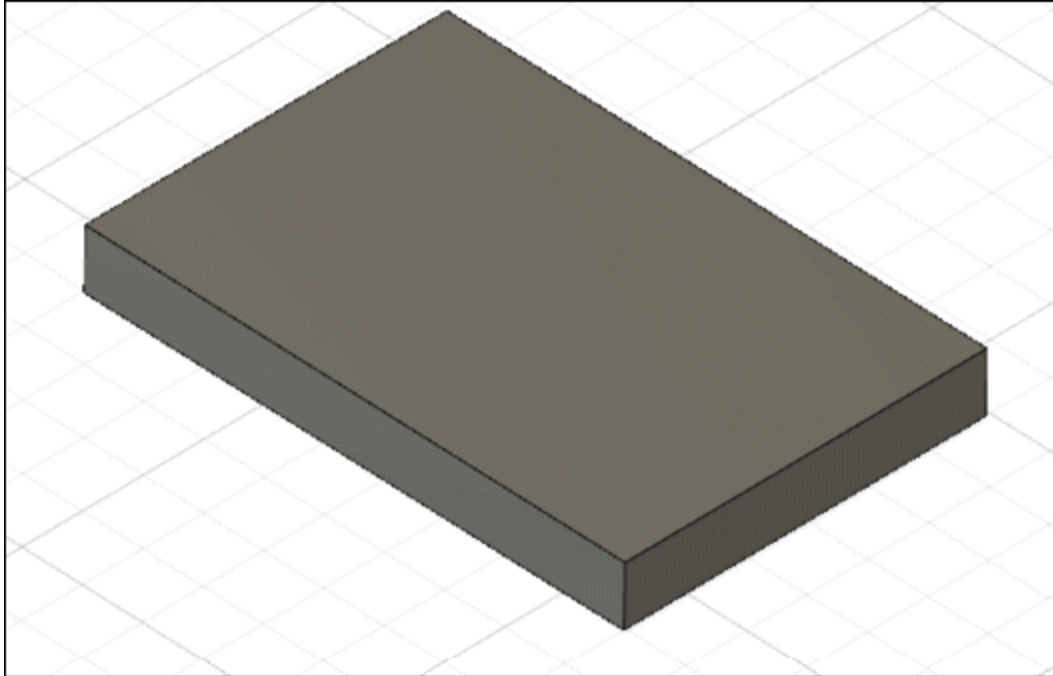

Figure-62. Box created
- Click **OK** button from the **BOX** dialog box to create the box; refer to Figure-62.